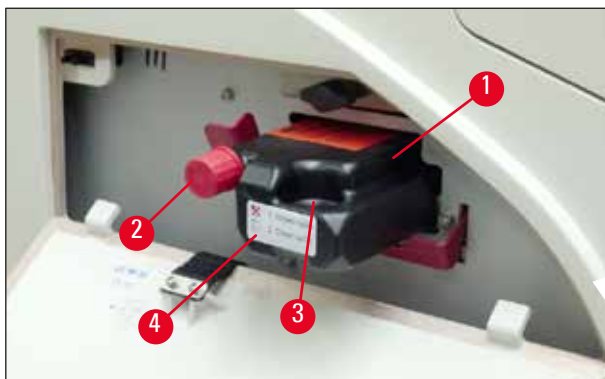

Fig. 60
- Remove the protective foil and insert the cartridge until it is about half way into the cartridge slot (→ "Fig. 60").